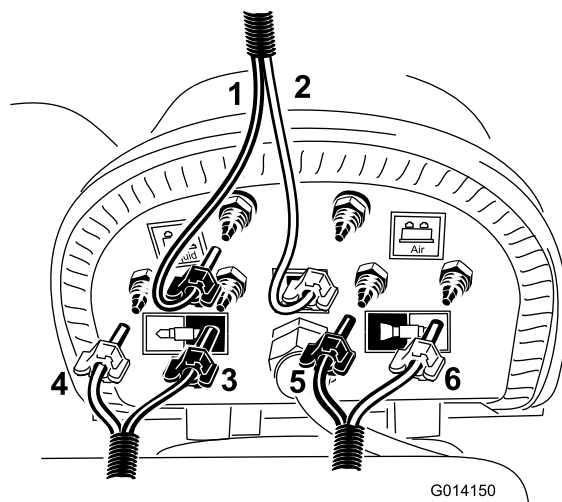

Figure 21
- C. Install the blue and clear tubes to the corresponding upper barbs on the compressor (Figure 21).
- F. Locate the foam hose routed to the left boom, and install the blue and white tubes to the locations as shown in Figure 21.
- G. Locate the foam hose routed to the right boom, and install the blue and white tubes to the locations as shown in Figure 21.